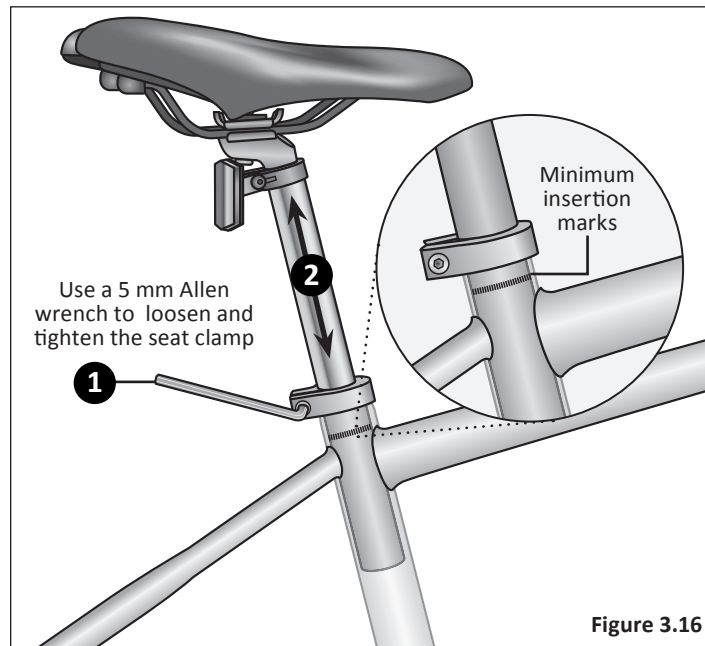

Figure 3.16
- ❶ Using a 5 mm Allen wrench, loosen the seat clamp bolt and insert the seat post into the seat tube. **Figure 3.16**
- ❷ Adjust the seat height up or down until the rider feels they have control of the bicycle and is comfortable.